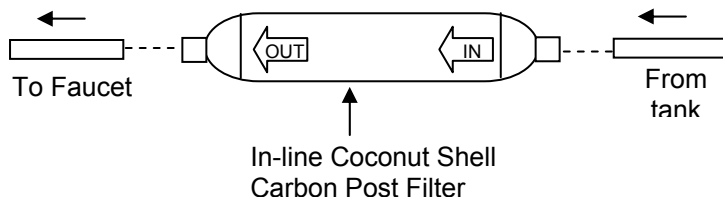

Figure 5
4. Firmly reconnect the polytubes to the new Post Filter. (Refer to Fig. 5 below.)